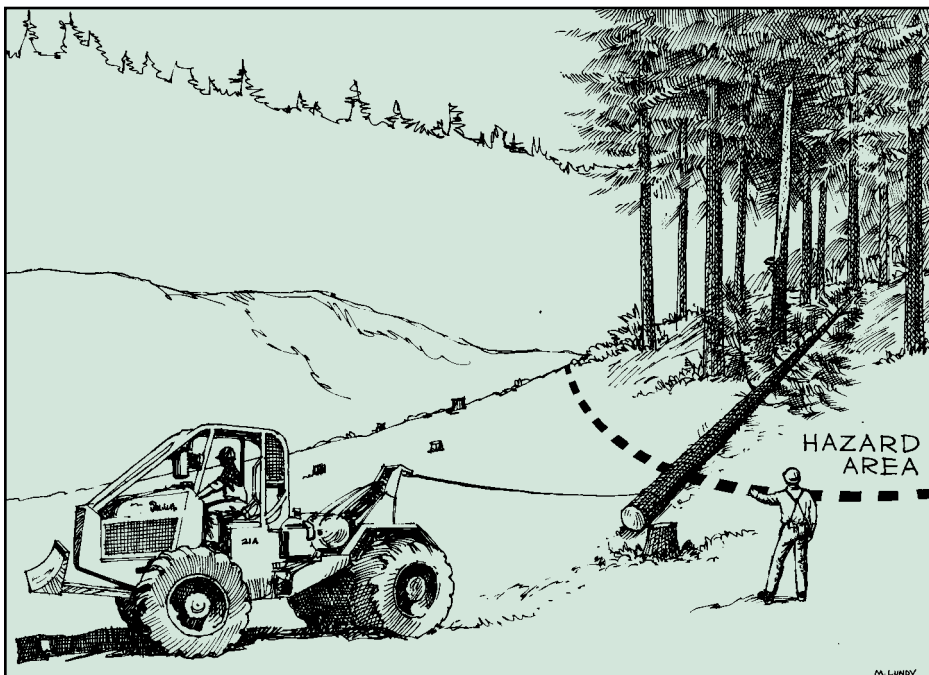

Fig. 14. — Reaching trees from outside the hazard area.
- If trees fall into the hazard area of a Type 3 or 4 reserve tree, leave them unbuckled so they can be choked or grappled without having workers or the cab of machinery entering the hazard area (Fig. 14).